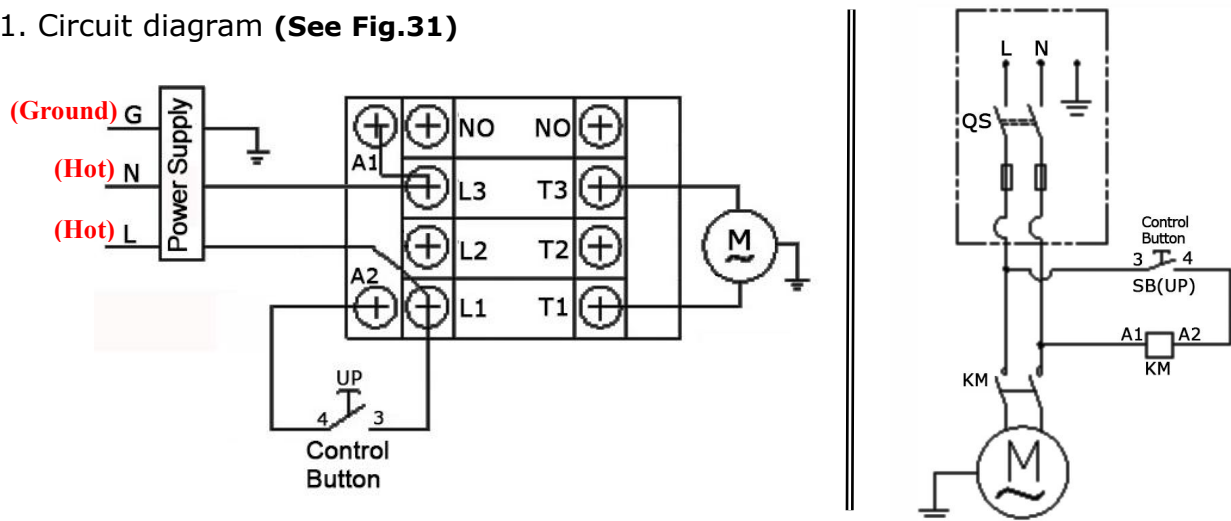

Fig. 31
1. Circuit diagram (See Fig.31)